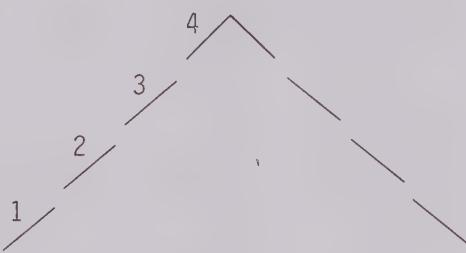
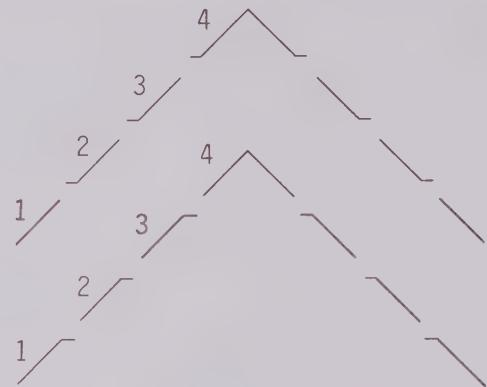

Figure 6 - Misaligned Gain
Figure 7 - Misaligned Offset
- a. Observe the waveform for separations similar to those illustrated in Figure 6 (Misaligned Gain) and/or Figure 7 (Misaligned Offset).
Discontinuities in the digital output signal will occur when misalignments of the Gain (Figure 6) and/or Offset (Figure 7) are present.